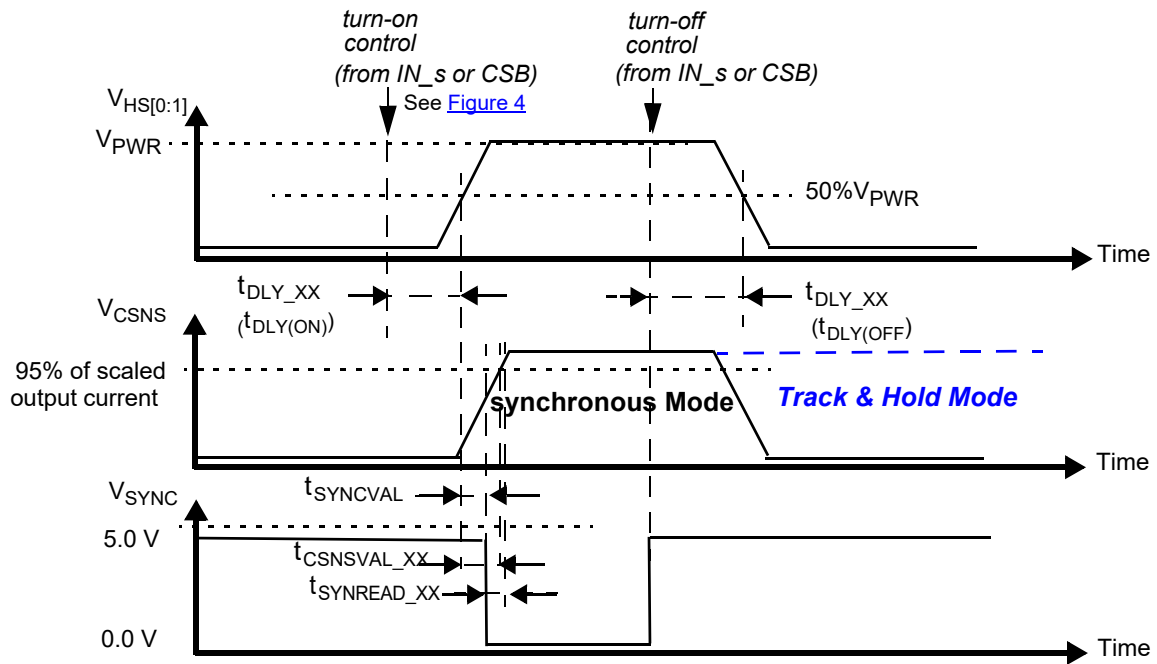

Figure 9. Synchronous and Track & Hold current sensing modes: associated delay and settling time
29. Time required to switch off the channel after detection of overtemperature (OT), overcurrent (OC), SC or UV error (time measured between start of the negative edge on the FSB pin and the falling edge on the output voltage until  $V(\text{HS}[0:1]) = 50\%$  of  $V_{PWR}$ ).
30. Settling time (=  $t_{CSNSVAL\_XX}$ ), SYNC output signal delay (=  $t_{SYNCVAL\_XX}$ ) and Read-out delay (=  $t_{SYNREAD\_XX}$ ) are defined for a stepped load current ( $100\text{ mA} < I(\text{LOAD}) < I_{OCLX\_A}$  FOR  $\text{CSNS\_RATIO\_S} = 1$ , AND  $300\text{ mA} < I(\text{LOAD}) < I_{OCLX\_A\_0}$  FOR  $\text{CSNS\_RATIO\_S} = 0$ ). (see Figure 9 and Output current monitoring \(CSNS\))
The CS pin allows independent current monitoring of channel 0 or channel 1 up to the steady state overcurrent threshold. It can also be used to sense the device temperature. The different functions are selected by setting bits CSNS1\_en and CSNS0\_en to the appropriate value (Table 23). When the CSNS pin is sensed during switch-off in the (optional) Track & Hold mode (see Figure 9), it outputs the scaled value of the load current as it was just before turn-Off. When several devices share the same pull-down resistor, the CSNS pins of devices the current of which is not monitored must be tri-stated. This is accomplished by setting CSNS0\_en = 0 and CSNS1\_en = 0 in the GCR register (Table 10). Settling time ( $t_{CSNSVAL\_XX}$ ) is defined as the time between the instant at the middle of the output voltage's rising edge ( $HS[0:1] = 50\%$  of  $V_{PWR}$ ), and the instant at which the voltage on the CSNS-pin has settled to  $\pm 5.0\%$  of its final value. Anytime an overcurrent window is active, the CSNS pin is disabled (see Overcurrent detection on resistive and inductive loads). The current and temperature sensing functions are unavailable in Fail-safe mode and in Normal mode when operating without the  $V_{DD}$  supply voltage. In order to generate a voltage output, a pull-down resistor is required ( $R(CSNS)=1.0$  k $\Omega$  typ. and  $470 < R(CSNS) < 10$  k). When the current sense resistor connected to the CSNS pin is disconnected, the CSNS voltage is clamped to  $V_{CL(CSNS)}$ . The CSNS pin can source currents up to about 5.6 mA.
To synchronize current sensing with an external process, the SYNC signal can be connected to a digital input of an external MCU. SYNC is asserted logic low when the current sense signal is accurate and ready to be read. The current sense signal on the CSNS pin has the specified accuracy  $t_{SYNCREAD\_XX}$  seconds after the falling edge on the SYNC pin (Figure 9) and remains valid until a rising edge is generated. The rising edge that is generated by the SYNC pin at the turn-OFF instant (internal or external) may also be used to implement synchronization with the external MCU. Parameter  $t_{SYNCVAL\_XX}$  is defined as the time between the instant at the middle of the output-voltage rising edge ( $HS[0:1] = 50\%$  of  $V_{PWR}$ ), and the instant at which the voltage on the SYNC-pin drops below 0.4 V ( $V_{SOL}$ ). The SYNC pins of different devices can be connected together to save  $\mu$ -controller input channels. However, in this configuration, the CSNS function of only one device should be active at a time. Otherwise, the MCU does not determine the origin of the SYNC signal. The SYNC pin is open drain and requires an external pull-up resistor to VDD.